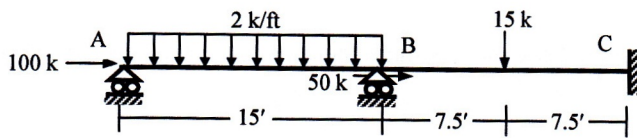

Fig. 6
6. Use Stiffness Method to calculate the unknown joint rotations and displacement for the beam ABC loaded as shown in *Fig. 6*, considering flexural deformations only with geometric nonlinearity [Given: $EI = 50 \times 10^3 \text{ k-ft}^2$].